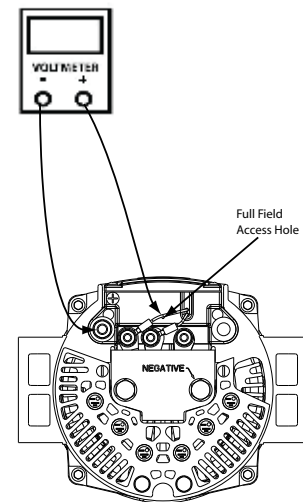

Fig 1
Step 1: Insert 1/16" drill bit or mechanics wire into alternators full field access hole. Insert straight into hole until it stops about 1/4" (Do not Force). Hold firmly in place to ensure appropriate contact. See Fig 1.